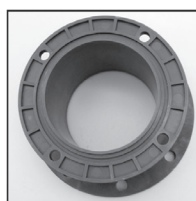

Figure 24
1. Place motor adapter (item 11) so the large flange is on the bench. Rotate the adapter so the four holes in the smaller flange are in the horizontal position. Install o-ring (item 10) in the groove. See figure 24.